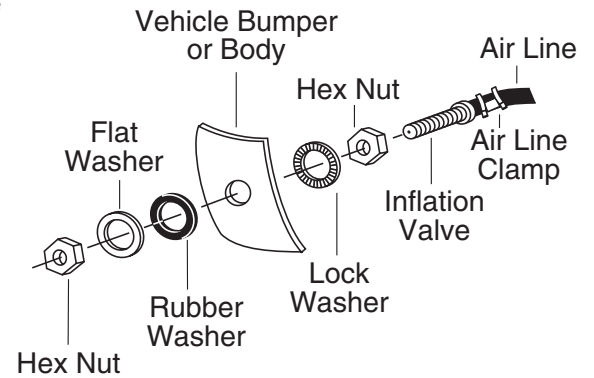

Figure 7
12. Drill a 5/16" hole for inflation valve and mount as in illustration (Figure 7). Rubber washer is for outside weather seal.
8. Drill 5/16" hole for inflating valves and mount as illustrated. Rubber washer is for outside weather seal (Figure 7).